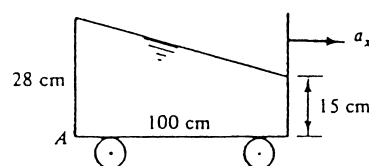

Fig. P2.139
**2.139** The tank of liquid in the figure P2.139 accelerates to the right with the fluid in rigid-body motion. (a) Compute  $a_x$  in  $\text{m/s}^2$ . (b) Why doesn't the solution to part (a) depend upon fluid density? (c) Compute gage pressure at point A if the fluid is glycerin at 20°C.